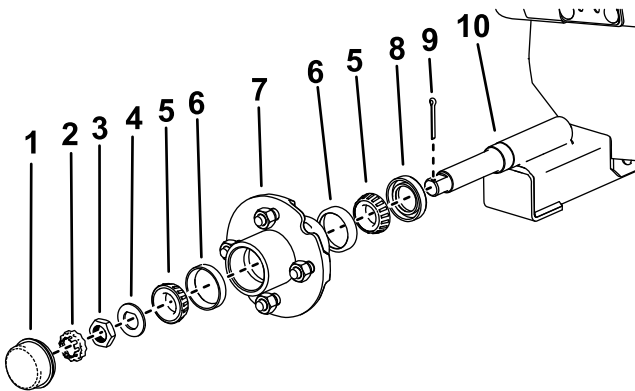

Figure 16
3. Remove the dust cap from the wheel hub (Figure 16).
4. Remove the cotter pin and retainer locknut (Figure 16).
5. Remove the hub nut, spindle washer and hub assembly from the axle (Figure 16).
3. Install the bearing cups and bearings to the hub assembly as shown in Figure 16.
1. Install the oil seal, hub assembly, and spindle washer as shown in Figure 16.